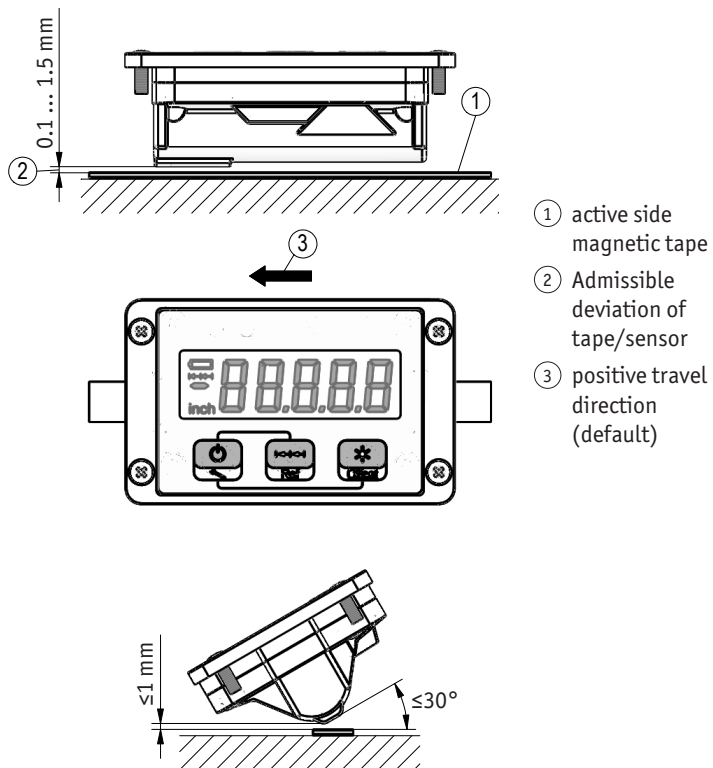

Fig. 10: Definition of the counting direction and mounting of the electronic display with integrated magnetic sensor/magnetic tape, gap measure, tolerance
- ▶ Take care that the electronic display with integrated magnetic sensor is aligned correctly in order to ensure optimum sensing (see Fig. 10).